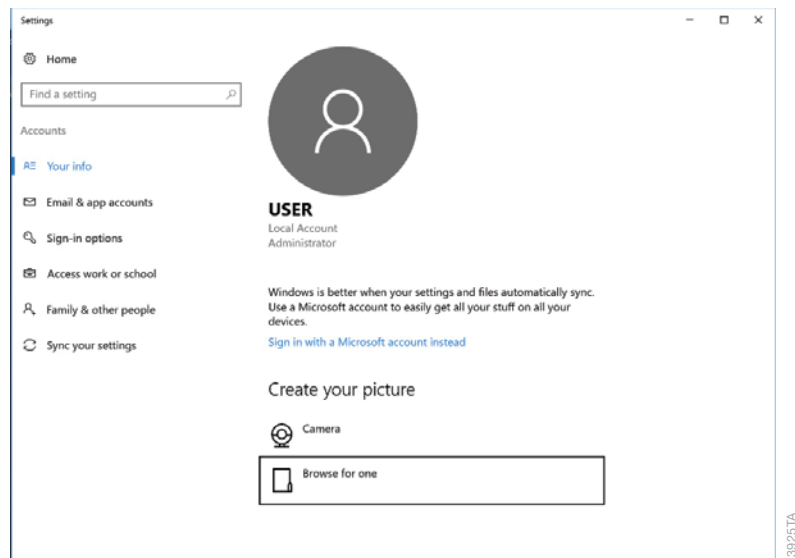

Figure 57. 'Accounts' screen. Settings related to Windows® user accounts can be managed from the 'Accounts' screen.
6. Select the **Accounts** button on the 'Windows Settings' screen to open the 'Accounts' screen (Figure 57).